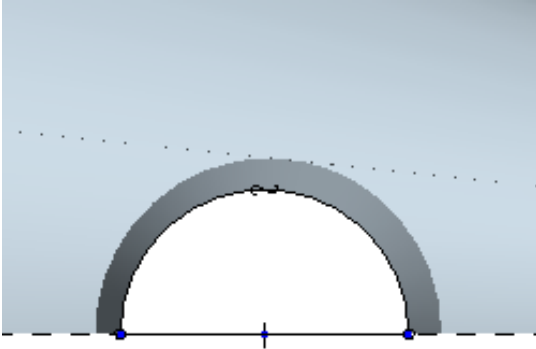

Figure 13-81 Sketch for the fill surface
- g. Remaining features are the fill features that will create surfaces on the blend features, refer to Figures 13-81 through 13-83.
7. Choose the **Create an entity from an edge** button and select the smaller semicircular edge of the blend surface. Complete the sketch as shown in Figure 13-81.